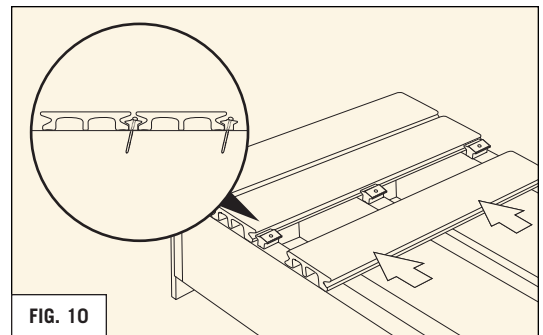

FIG. 10
- Repeat as required. (REFER TO FIG. 10)